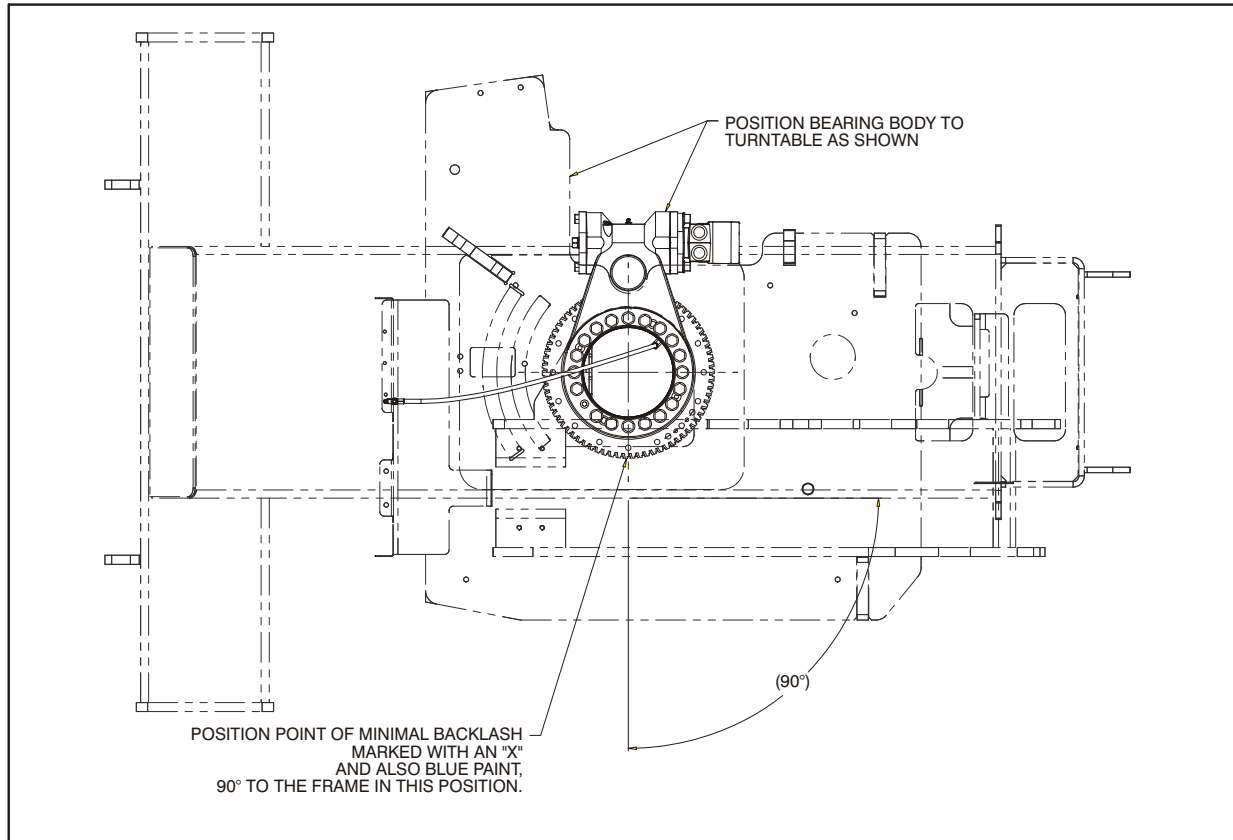
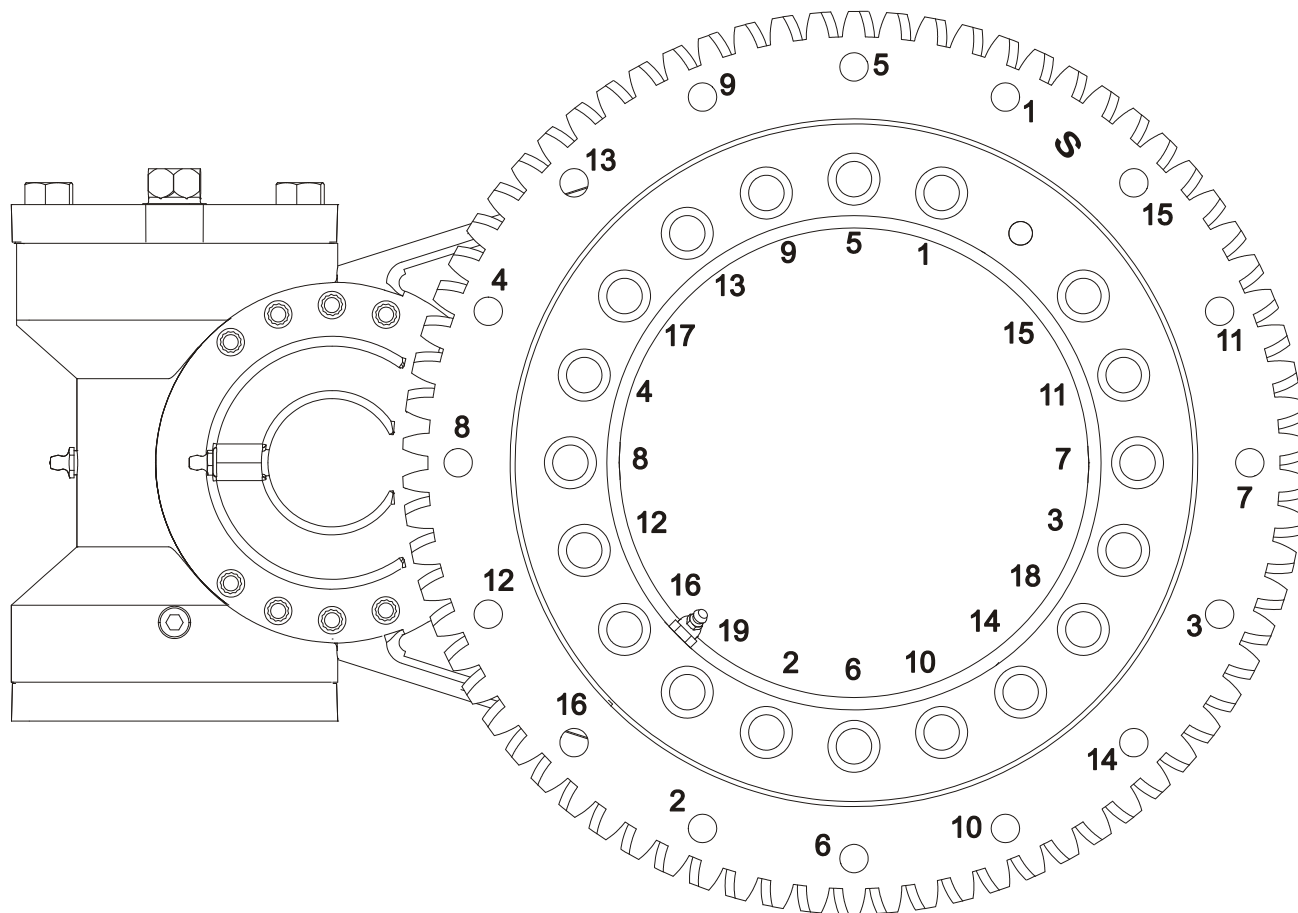

Figure 3-36. Bearing Placement
Figure 3-37. Swing Bearing Torque Sequence
2. Install the bearing in the position shown in Figure 3-36., Bearing Placement. Coat the bearing bolts with JLG Threadlocker P/N 0100019 and secure the bearing assembly to the frame with the bolts. Following the torque sequence diagram in Figure 3-37., Swing Bearing Torque Sequence, tighten the bolts to an initial torque of 95 ft.lbs. (130 Nm). Next, following the same sequence, tighten to a final torque of 133 ft.lbs. (180 Nm).
7. Following the torque sequence diagram in Figure 3-37., Swing Bearing Torque Sequence, tighten the bolts to an initial torque of 95 ft.lbs. (130 Nm). Next, following the same sequence, tighten to a final torque of 133 ft.lbs. (180 Nm).